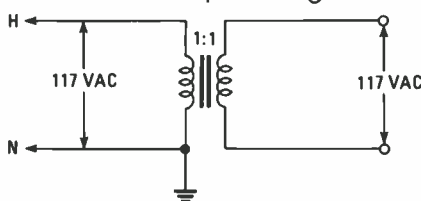

Fig. 2. The 117 volts that is grounded on the primary (power) side of the transformer, is lifted in the secondary.
**The Solution.** The best solution to the problem is to "lift" the AC power line off ground through a floating-AC power system. Figure 2 shows a transformer-